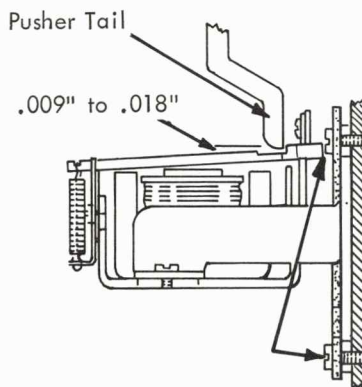

FIGURE 17.5 Mounting Bracket
7. Mounting Bracket (Fig. 17.5) - Position under its four mounting screws .009" to .018" clearance between the pusher tails and armatures.